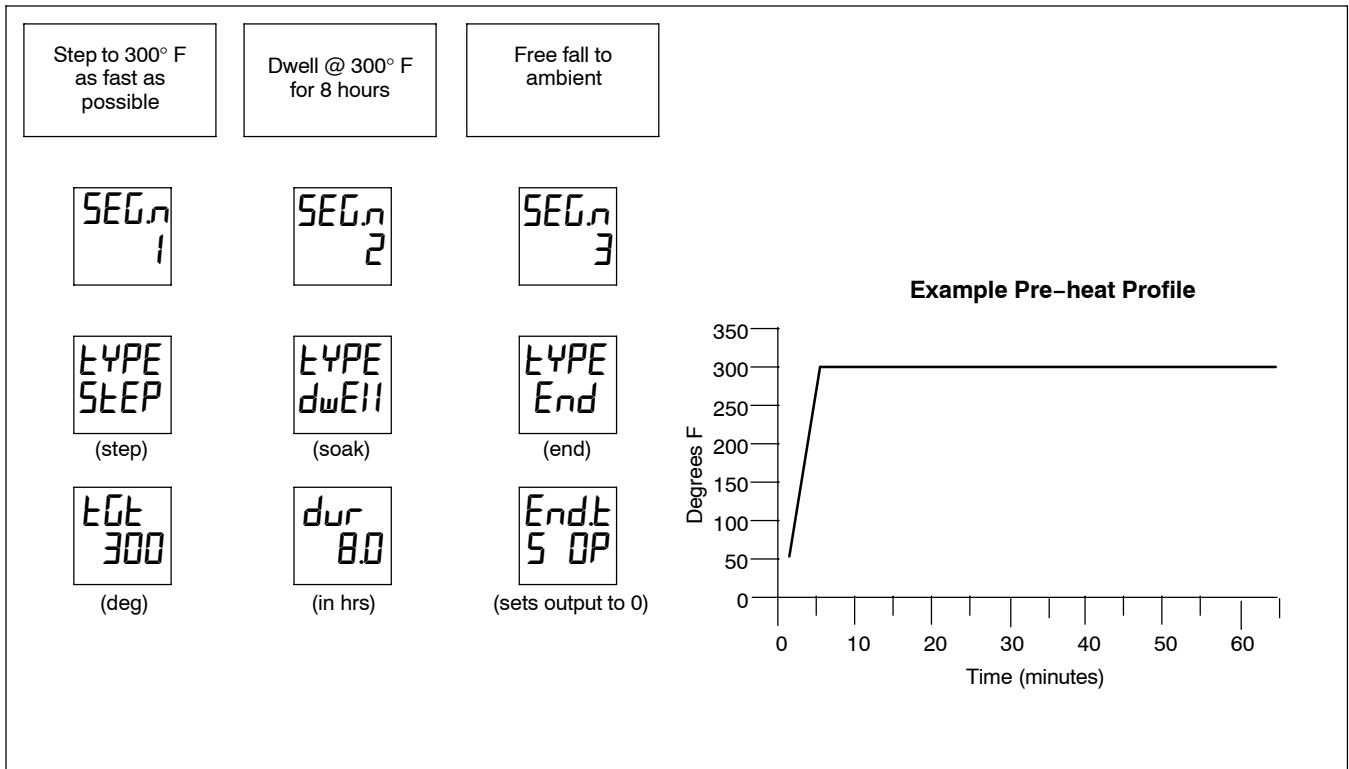
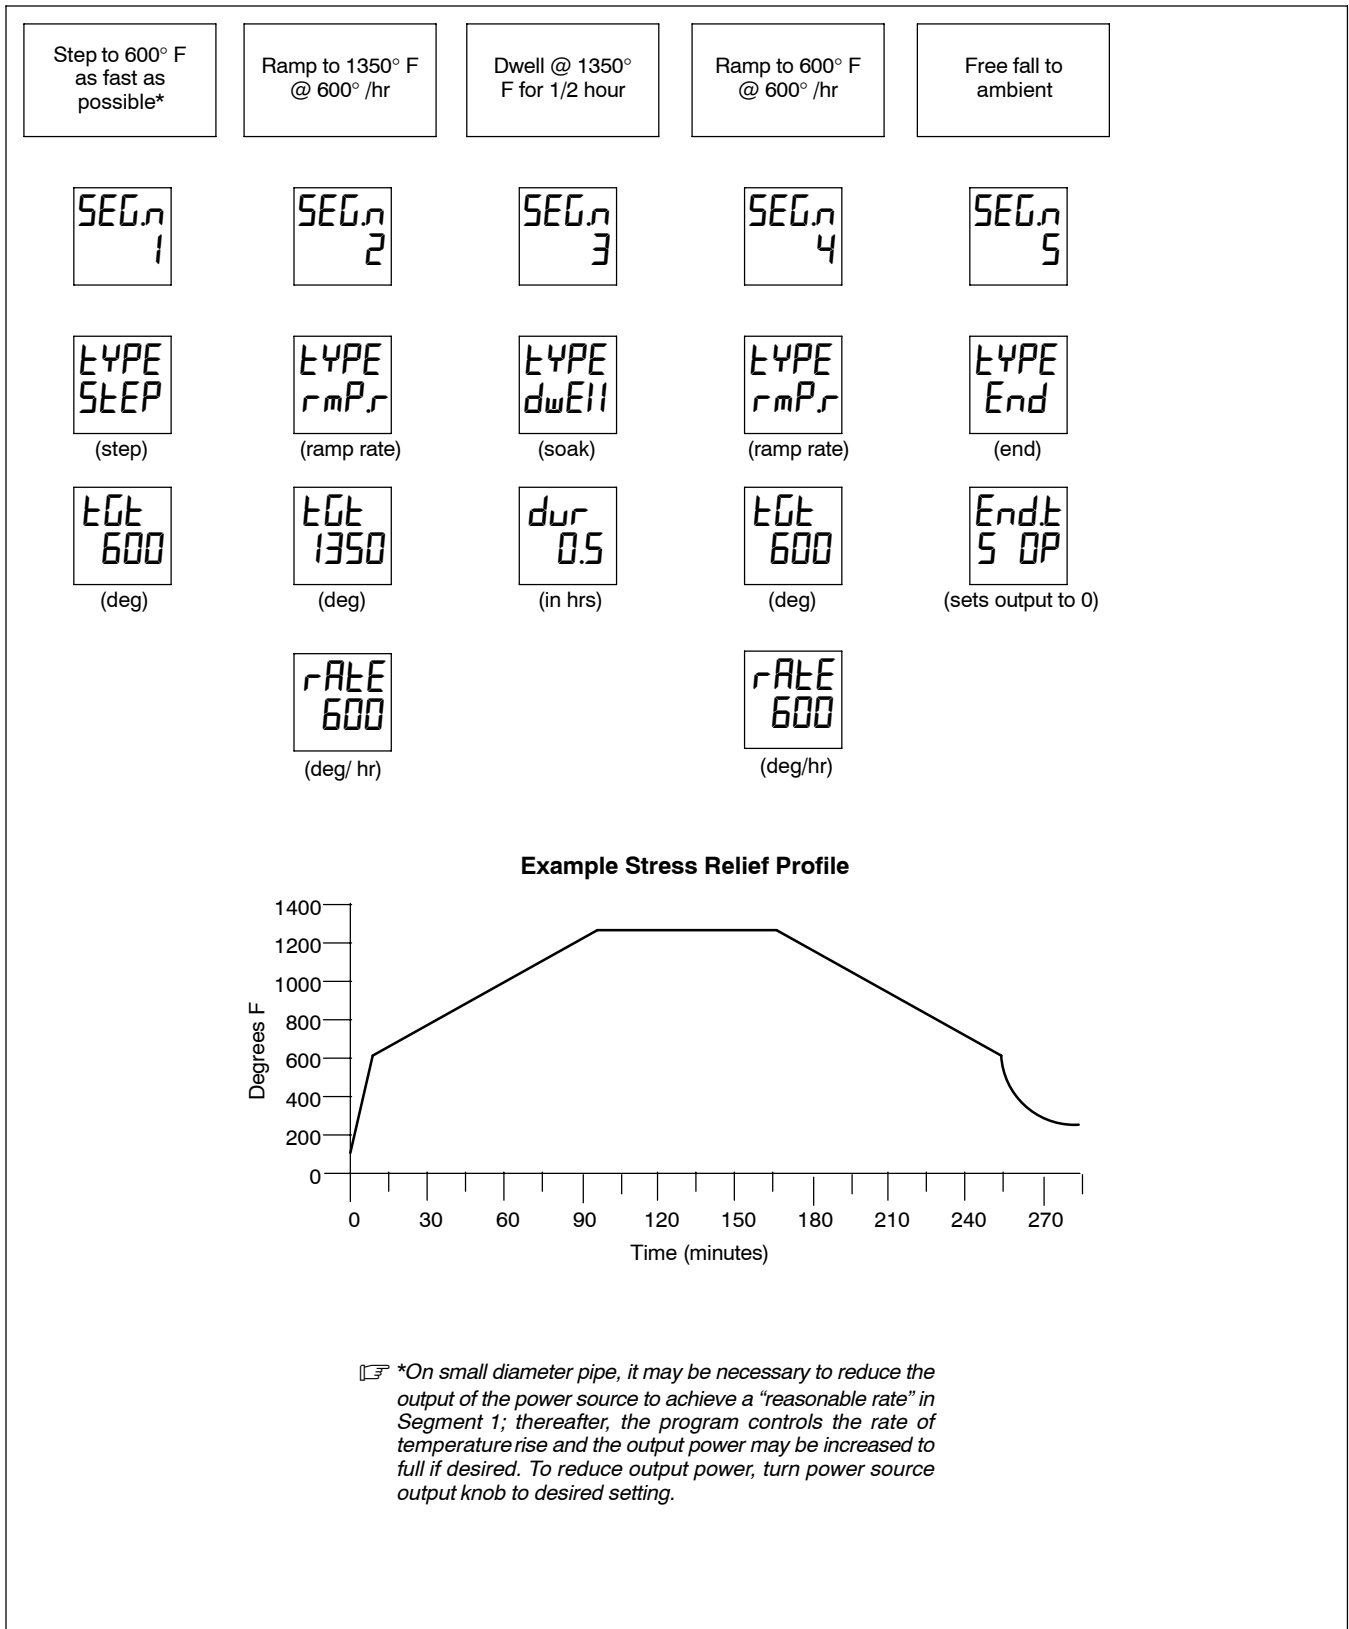
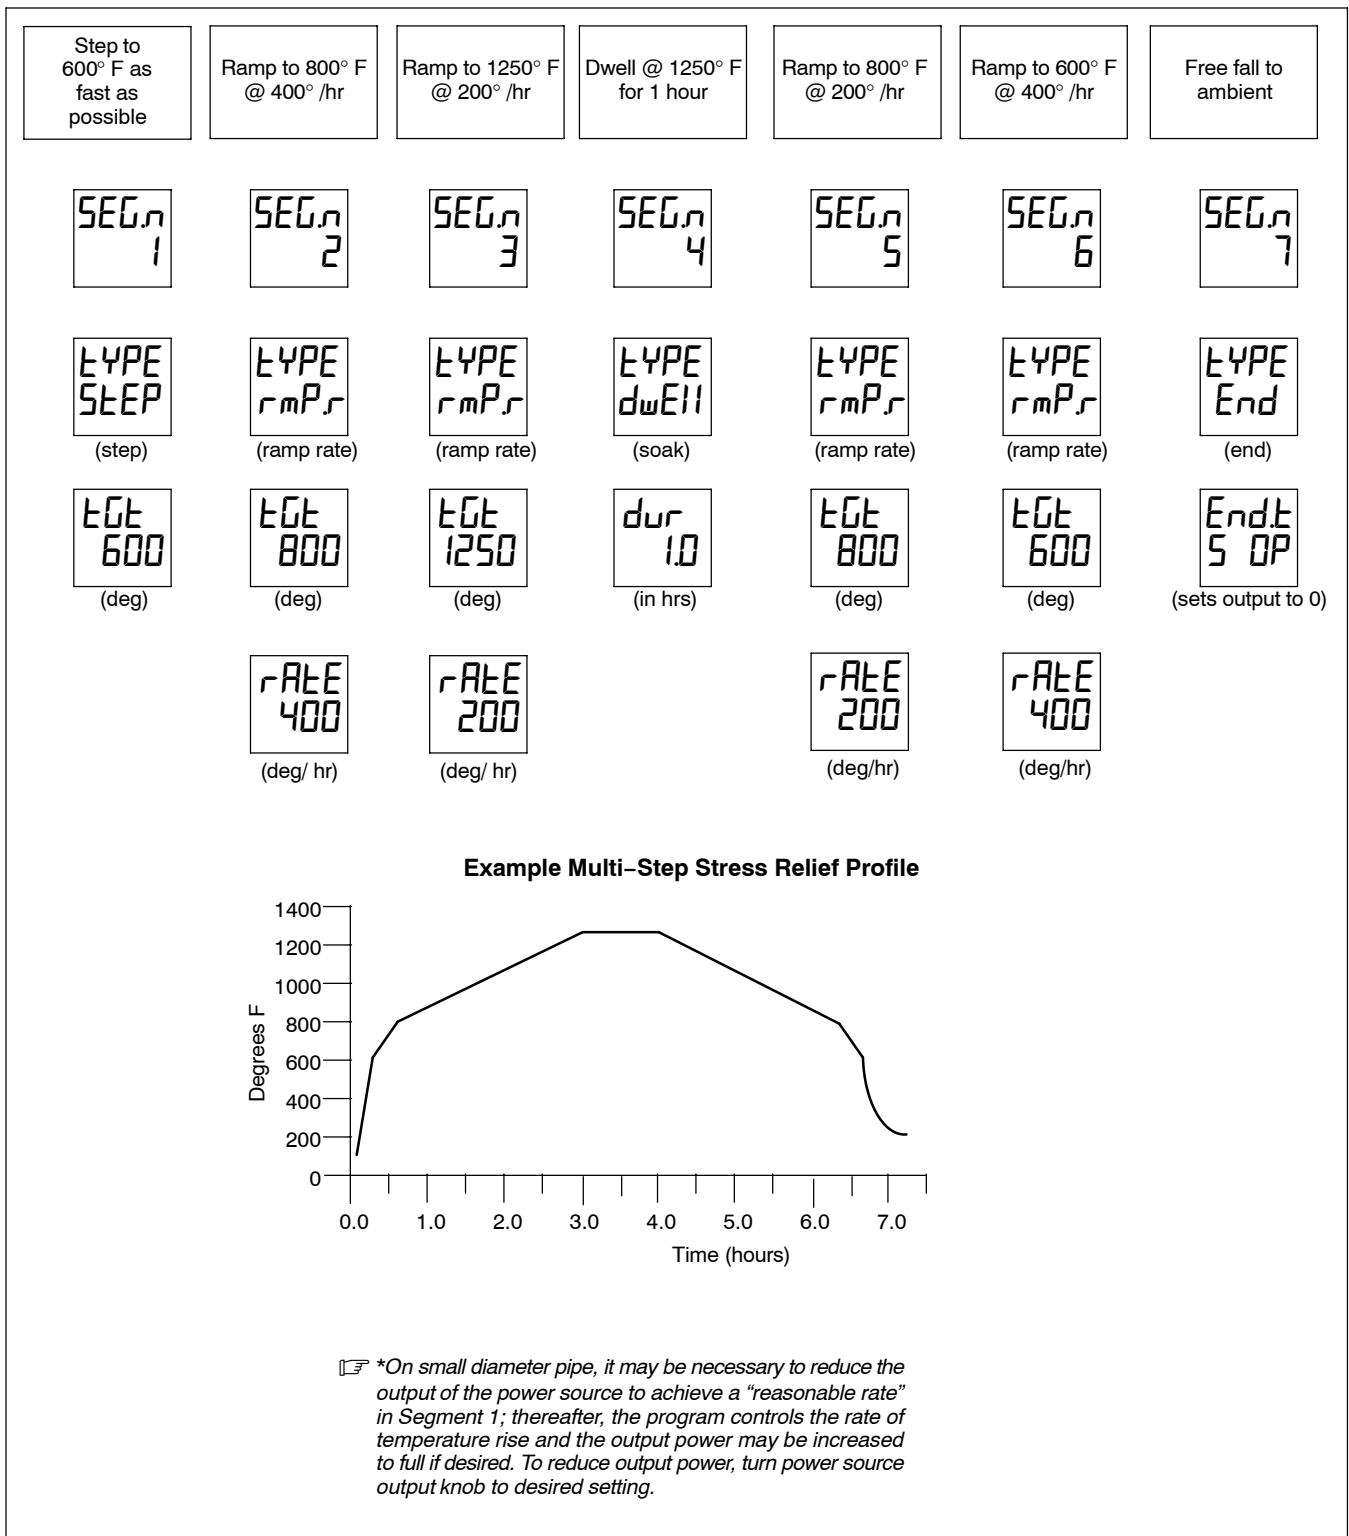

Figure 6-1. Setting Pre-heat Profile Using Example Parameters
Figure 6-2. Setting Stress Relief Profile Using Example Parameters
Figure 6-3. Setting A Complex Stress Relief Profile With Multiple Temperature Rise/Cool Rates Using Example Parameters
- Program List: This screen is accessed by pushing the “Page”  key three times. Program List is used to program the controller for a pre-heat or stress relieving temperature profile. Definitions of the various terms found in the sub-menu screens are shown in Table 6-3. Typical programming examples are shown in Figure 6-1, Figure 6-2 and Figure 6-3.
For Preheat program refer to Figure 6-1.
For Postweld stress relief program refer to Figure 6-2.
For a complex stress relief program (multiple temperature rise and cool rates) refer to Figure 6-3.